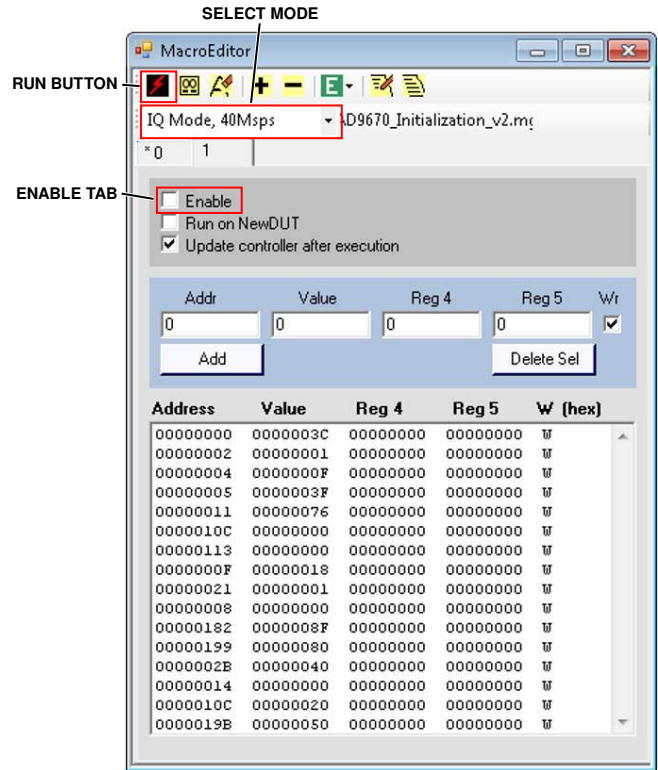

Figure 5. Select, Enable, and Run Commands in MacroEditor
7. Select either the **Real Mode** or the **IQ Mode** macro from the dropdown box (see Figure 5) and select the **Enable** checkbox. To run the selected macro, click the **Run** button to conduct a write operation (see Figure 5).